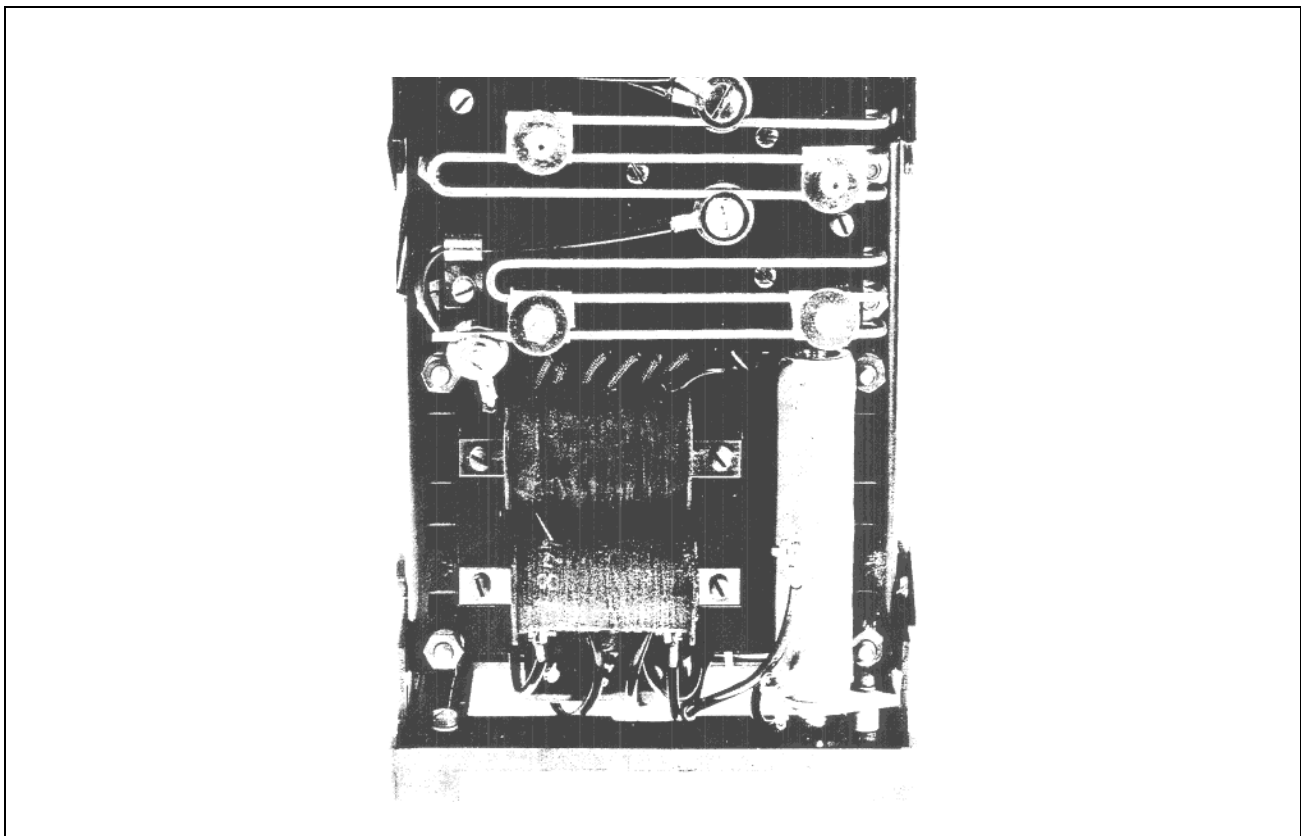
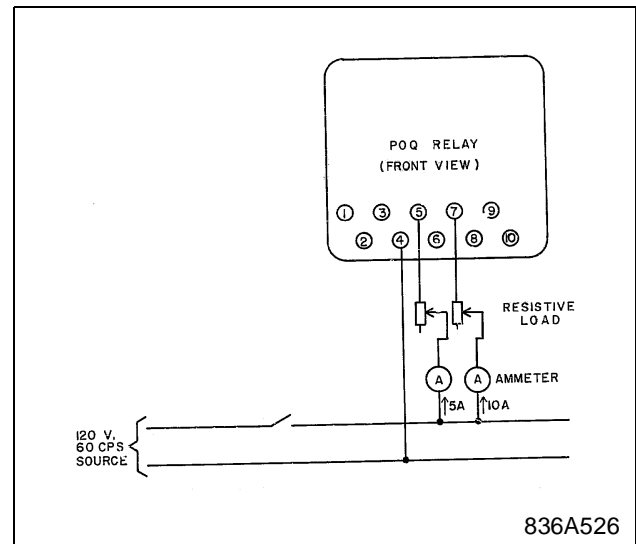

Figure 2 .Type POQ Relay in FT-21 case (Rear View)
Figure 6. Test connectins for the Type POQ Relay
- d. Now measure voltage across terminal 5 and the top filter resistor screw connection (refer to Figure 2). Adjust this connection until the voltmeter reads 1.73 times the reading obtained in part c.
To adjust the filter resistor tap for no response to zero sequence currents, remove tap Screw from POQ unit. Pass 10 amperes into terminal 7, 5 amperes into terminal 5 and out terminal 4 per Fig. 6. Connect a voltmeter between the top and bottom filter resistor connection (Fig. 2). Adjust the middle connection until the voltmeter reads a minimum.